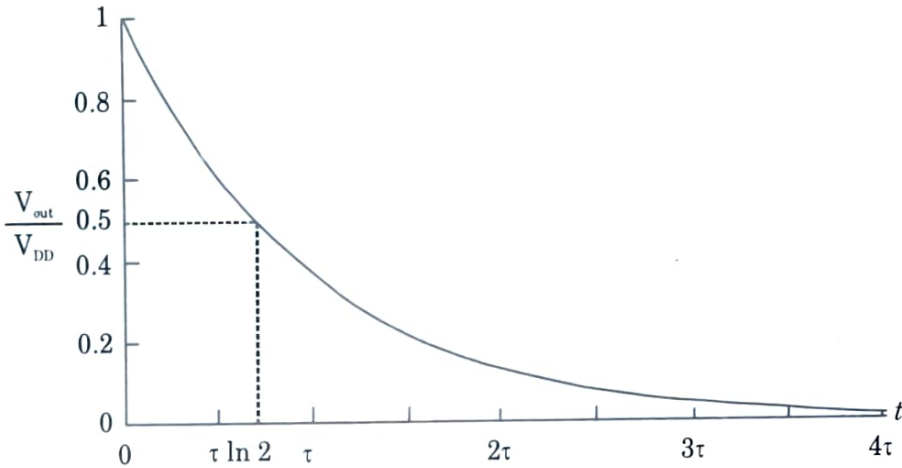

Fig. 2.11.2.
3. The propagation delay is the time at which V_{out} reaches $V_{DD}/2$, as shown in Fig. 2.11.2.